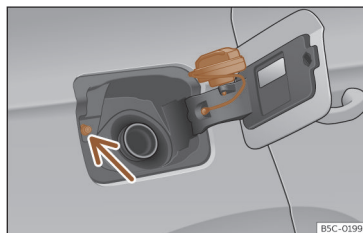

Fig. 206 Fuel tank flap with tank cap attached.
Avoid touching the fuel tank flap lock button » » » Fig. 206 (arrow). The system will interpret that you have finished and cannot continue refuelling. Press the  button on the driver's door again to continue.
- Place it in the space on the hinge of the open flap » » » Fig. 206.